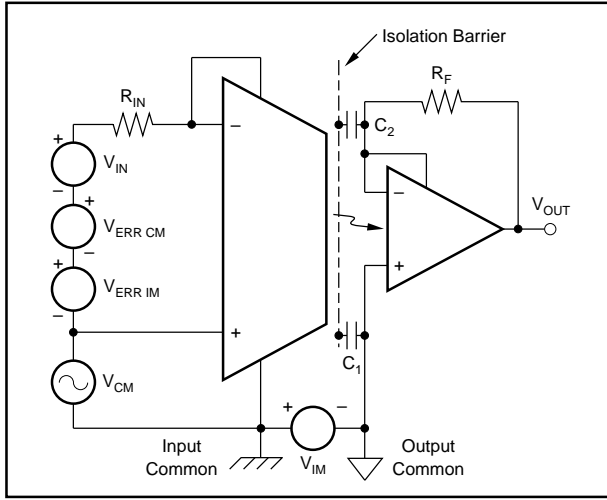

FIGURE 3. High Voltage Error Model.
Figure 3 shows a model of the ISO100 that can be used to analyze common-mode and high voltage behavior.
**Example 2.** Refer to Figure 3 and Electrical Specification Table.